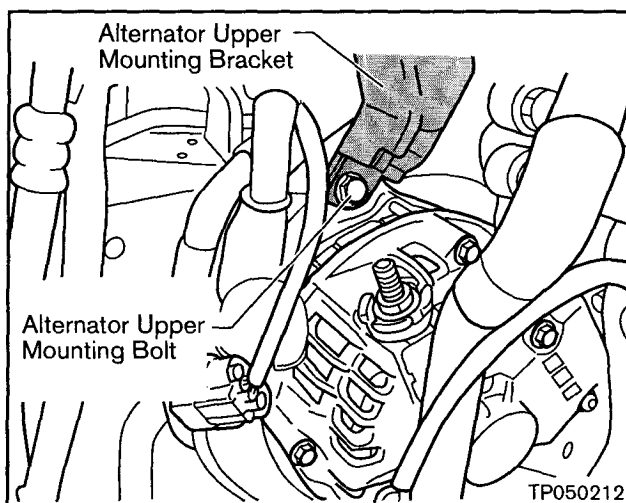
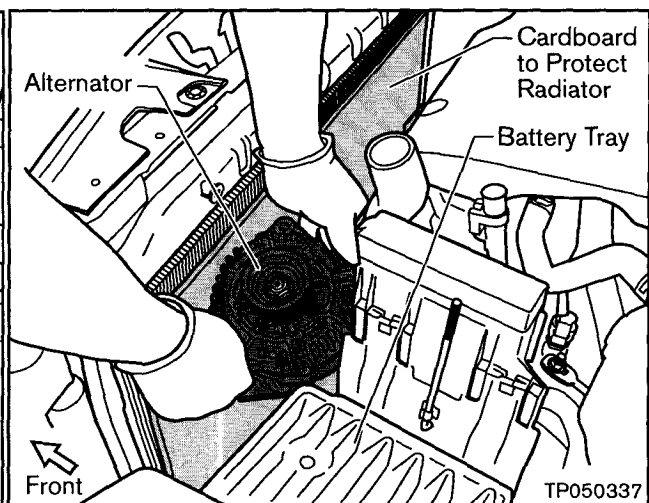

Figure 19a
Figure 19b
17. Remove the Alternator Upper Mounting Bolt (see Figure 19a). Then remove the Alternator by carefully moving it between the Exhaust Manifold/Catalyst and Radiator towards the Battery tray (see Figure 19b).